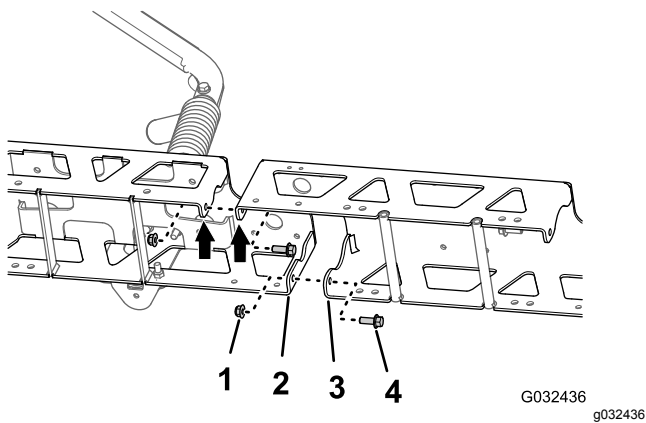

Figure 54
- Align the holes in vertical flanges of the center-boom extension with the holes in the truss frame (Figure 54).
- Loosely assemble the center-boom extension to the truss frame (Figure 54) with the 2 flange-head bolts (3/8 x 1 inch) and 2 flange locknuts (3/8 inch) that you removed in step 1 of Separating the Center-Spray Section Trusses (page 28).
- Align the holes in vertical flanges of the center-boom extension with the holes in the other truss frame (Figure 54).
- Loosely assemble the center-boom extension to the other truss frame (Figure 54) with the 2 flange-head bolts (3/8 x 1 inch) and 2 flange locknuts (3/8 inch) from the GeoLink spray system finishing kit (Figure 54).